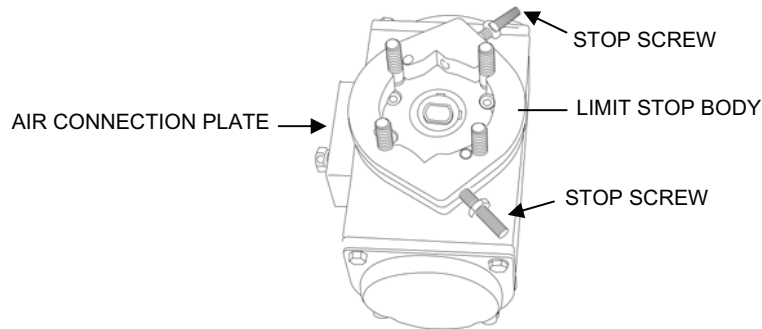

Figure 10. Limit Stop Body Installation.
- e. Place the limit stop body over the four studs and on the actuator base with the stop screws pointing away from the actuator air connection plate (see Figure 10).